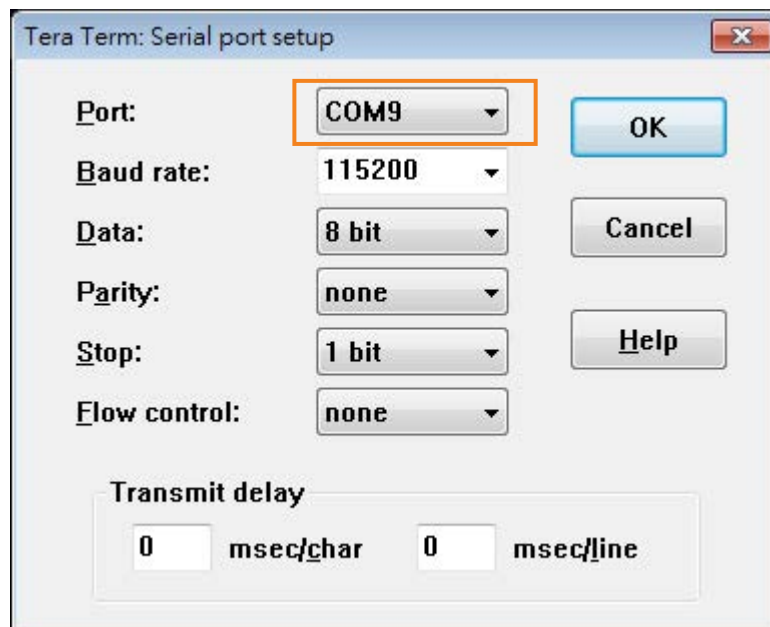

Figure 5. UART configurations in Tera Term terminal program
- a) Assign the COM port number found in Set up the port. The rest of the parameters such as **Baud rate**, **Data**, **Parity**, **Stop** and **Flow control** should be defined, as shown in Figure 5.